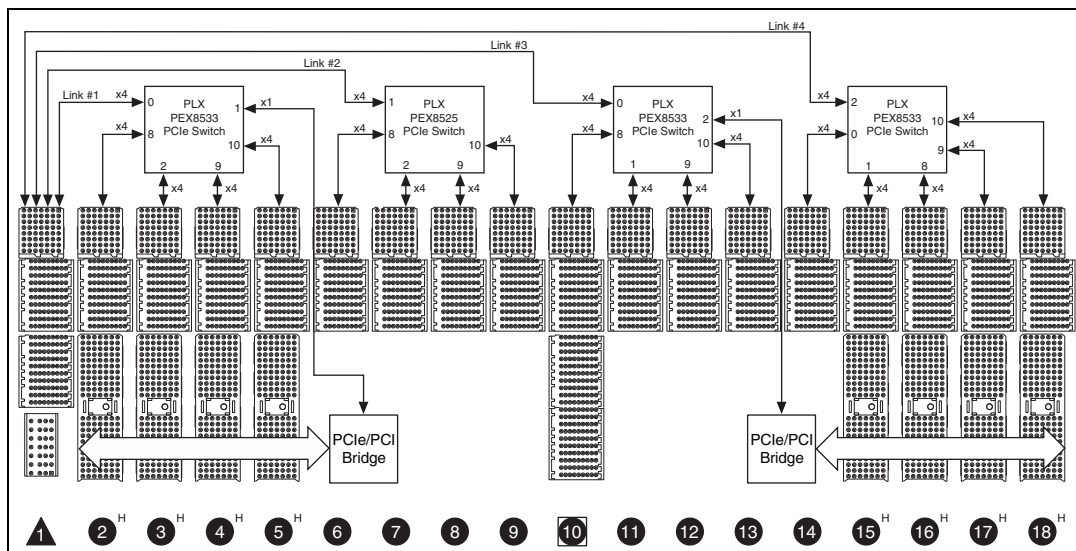

Figure 2. NI PXIe-1075 Backplane Architecture
The backplane routes each of the system slots' x4 PCI Express (PCIe) links to a PCIe switch. The four PCIe switches have x4 PCIe links routed to each peripheral slot as well as x1 links to two (2) PCIe-to-PCI bridges providing 32-bit/33 MHz PCI busses to the hybrid slots. Refer to Figure 2 for the connectivity of PCIe and PCI.